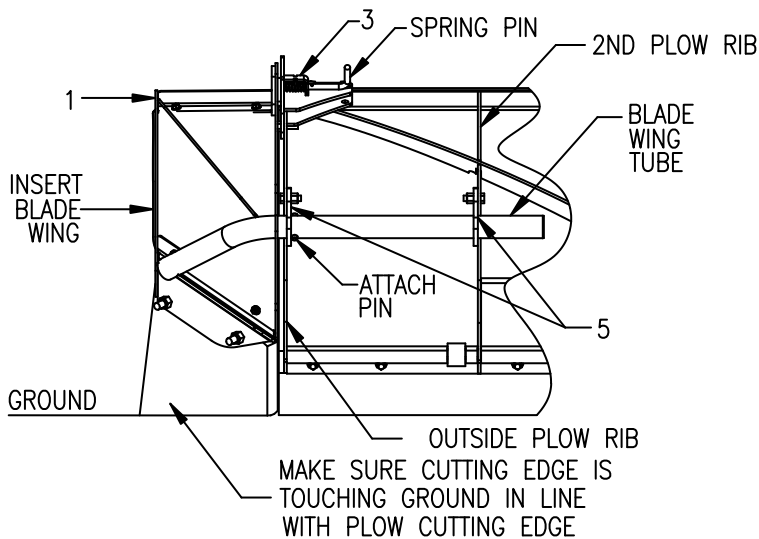

Figure 4. Blade Wing Extension Assembly
- 9) Bolt second Plow Rib Bracket (5) to outside of intermediate rib. Do not tighten fasteners.
- 10) Insert Driver Side Blade Wing (1) into Plow Rib Brackets (5).
- 11) Slide Driver Side Blade Wing (1) in until Attach Pin passes through first Plow Rib Bracket (5). See Figure 4.